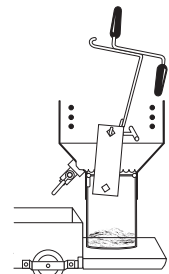

FIGURE 18
5. **Remove Heat Plate** - Inspect from above to see that cooking oil has drained out of cookpot down to level of drain valve. Wearing safety gloves, remove heat plate with basket drain hook (Figure 18) and place in